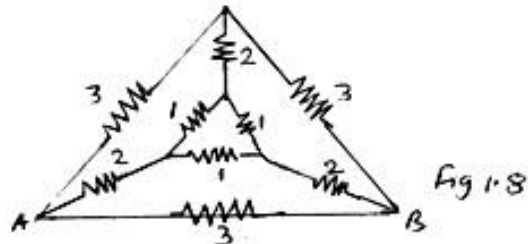

Fig 1.8
12. For the network shown in fig.1.8, find the equivalent resistance between AB.